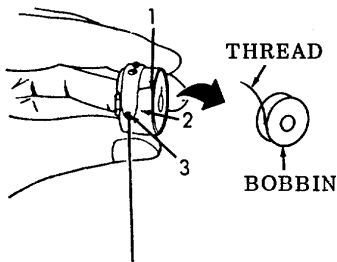

Figure 2-28. Threading the Bobbin Case.
- (9) When bobbin is properly filled, release foot treadle and push the OFF button.
- (10) Cut thread and remove bobbin from bobbin winder.
*f. Threading the Bobbin Case (Refer to Figure 2-28).***WARNING***Be sure that electrical power is turned off.*
- (1) Open and hold the bobbin latch to prevent the bobbin from dropping out. Then insert the bobbin into the bobbin case so that the thread will be in the right-twist condition.